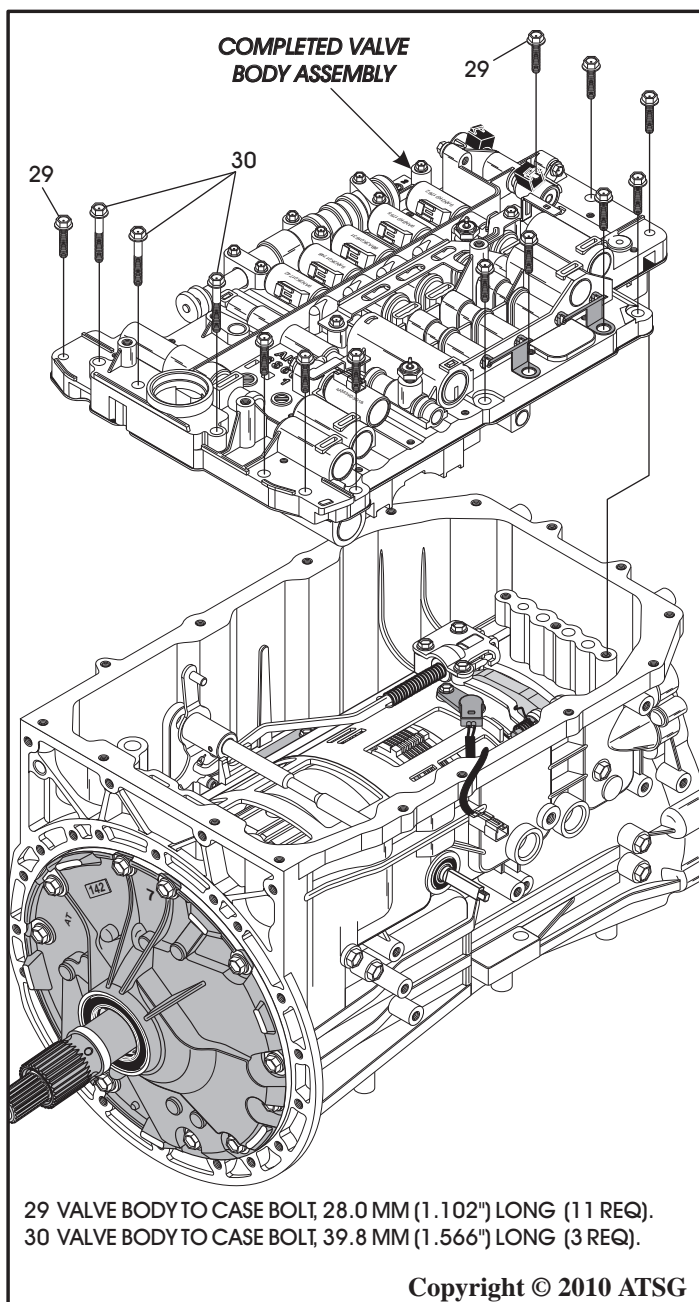

Figure 229
53. Now set transmission on work bench with the pan surface facing up, as shown in Figure 229.
54. Install the completed valve body assembly, as shown in Figure 229.